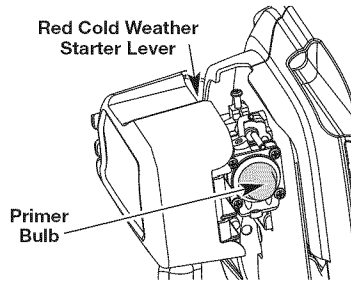
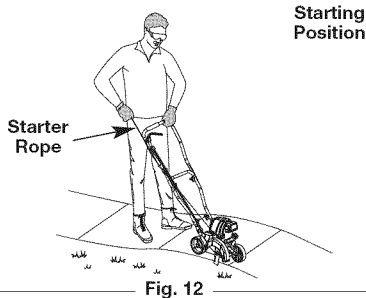

Fig. 11
Fig. 12
**WARNING:** Avoid accidental starting. Make sure to be in the starting position when pulling the starter rope (Fig. 12). To avoid serious injury, the operator and unit must be in a stable position while starting.
**IF COLD...** In cold weather conditions (below 40°F), push the red cold weather start lever (Fig. 11) down to the closed position and continue to step 3. **DO NOT** push this lever down if the temperature is above 40°F.
3. Fully press and release the primer bulb 10 times, slowly. Some amount of fuel should be visible in the primer bulb (Fig. 11). If fuel cannot be seen in the bulb, press and release the bulb until fuel is visible.
4. Stand in the starting position (Fig. 12).
**IF COLD...** For cold weather conditions (below 40°F), push the red cold weather start lever (Fig. 11) down to the closed position and continue to step 3. **DO NOT** push this lever down if the temperature is above 40°F.
3. Fully press and release the primer bulb 10 times, slowly. Some amount of fuel should be visible in the primer bulb (Fig. 11). If fuel can not be seen in the bulb, press and release the bulb until fuel is visible.
5. Press and hold the ON (I) button of the Plug-in Power Start or Power Bit Start equipped drill in intervals no longer than 2 seconds each until the unit starts.
8. Stand in the starting position (Fig. 12). Tip the unit back so the blade does not touch the ground.